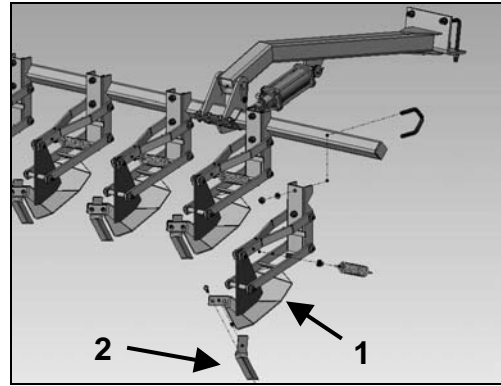

Figure 22 - Knife Scalper Adjustment
1. Adjust the scalper shoe (Figure 22, Item 1) so it is parallel with the ground or tipped up slightly in front. To perform, install the stops on the lift cylinders.